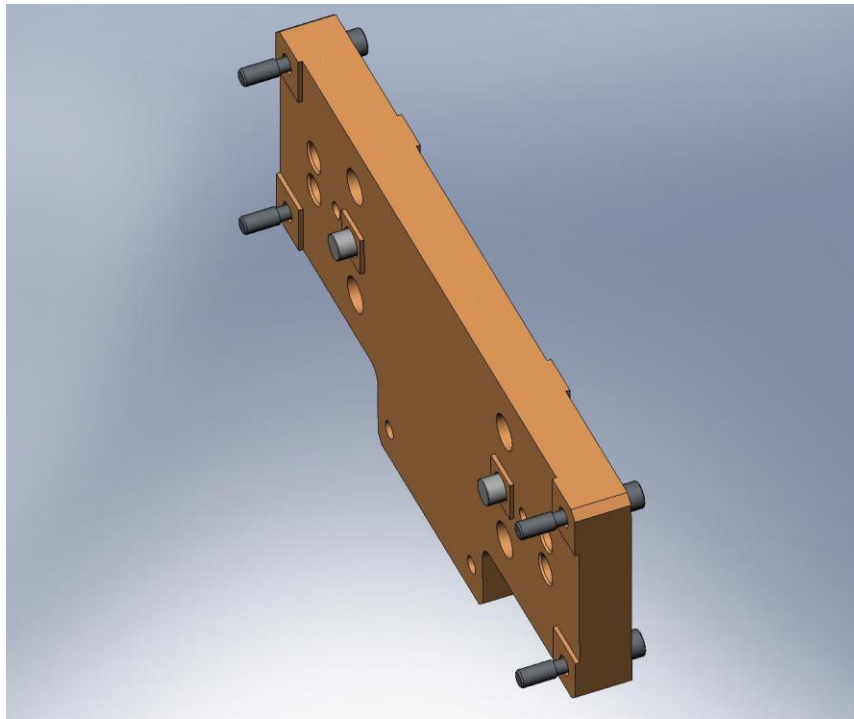

Figure 3.14. Actuator Magnet Mount with Captive Screws and dowel pins installed.
- Press (2) 3/8"x.75" dowel pins into bottom of **Actuator Magnet Mount** (D071120). Pins should remain .25" proud of the plate surfaces.
- Install (4) **Captive Screws** in the **Actuator Magnet Mount**, as shown in Figure 3.14. These are later used to mount the **Actuator Assemblies** to **Stage 1**, but are also needed to bolt to the **Set-Up Fixture**.